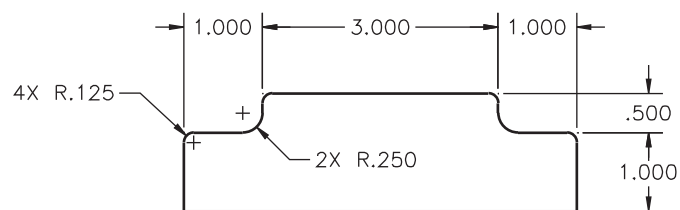

Fig. 16-17
4. Draw the steel base shown in Fig. 16-17. Use the **FILLET** command to place the fillets and rounds in the corners as indicated.